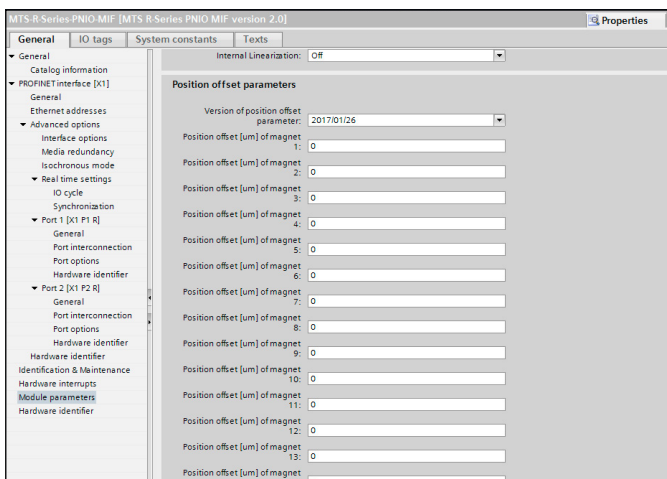

Fig. 42: Setting of the offset
- **Offset:** In the subsection „Position offset parameters“ you can set the offset, a shift of the measurement range start, separately for each magnet – independent of further magnets on the sensor rod/sensor profile (Fig. 42). You can set the values with a step size of 1 µm in the range between -214...+214 m.